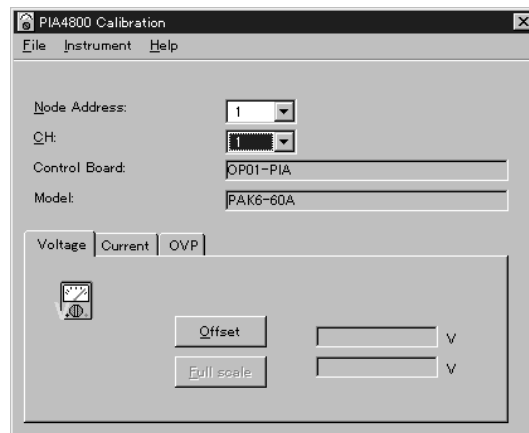

Fig. 3-18 Calibration
The screen will return to the Calibration dialog as shown in Fig. 3-18.
5. In the Calibration dialog shown in Fig. 3-18, open the Voltage page.
5. In the Calibration dialog shown in Fig. 3-18, open the Current page.
5. In the calibration dialog shown in Fig. 3-18, open the OVP page.
To calibrate DC power-supply units connected to other channels or control boards with other node addresses, specify a CH or node address in the Calibration dialog shown in Fig. 3-18.
To calibrate DC power-supply units connected to power-supply controllers with other GPIB addresses, start with the Calibration dialog menu shown in Fig. 3-18. To set a VISA Resource, select Options in the Instruments box.
The screen will return to the Calibration dialog box shown in Fig. 3-18.